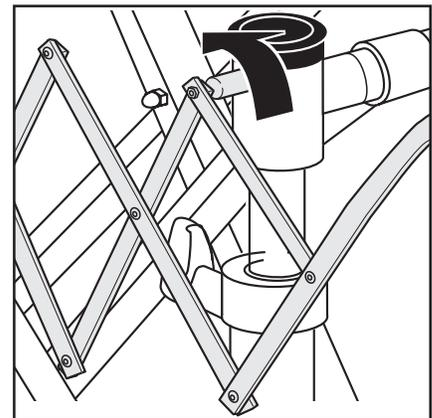

Figure 4 - Hold Steady or Turn Corner Sleeves While Tightening the Screws
7. Use a 1/2" wrench to tighten the screws (clockwise) into the corner sleeves until the screws are tight. Hold the corner sleeves in place or turn them counterclockwise as you tighten the screws (Figure 4).